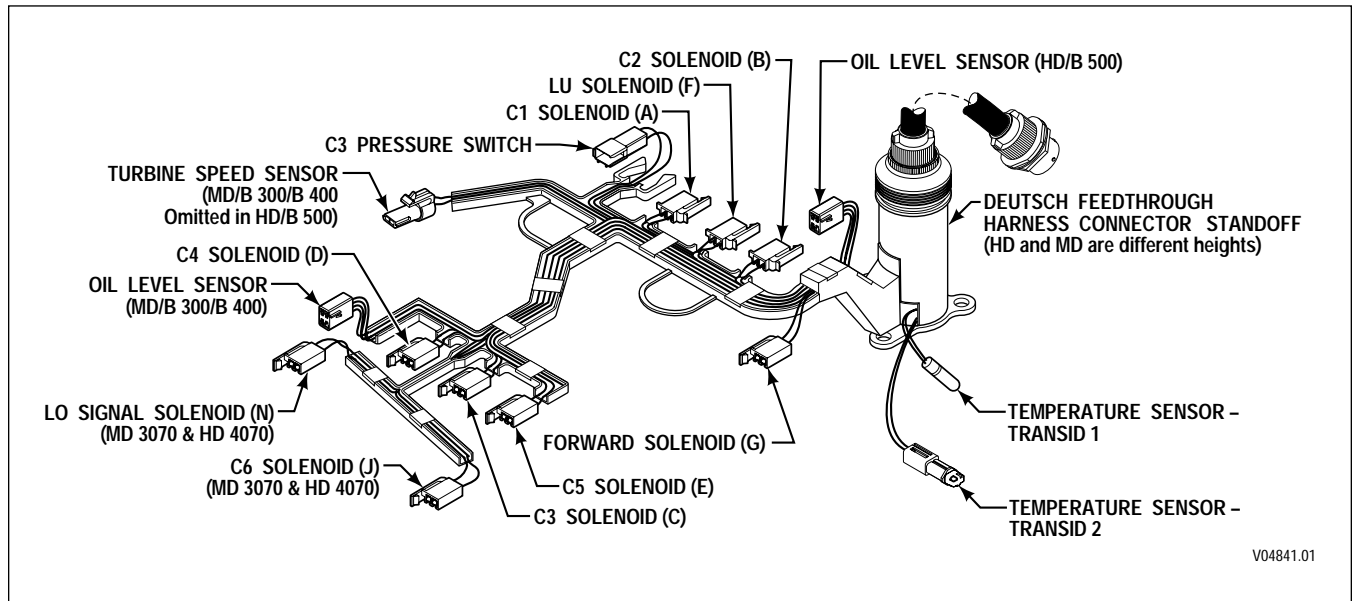

Figure 1-10. WTEC III Internal Wiring Harness
B. Internal Wiring Harness (Figure 1-10)